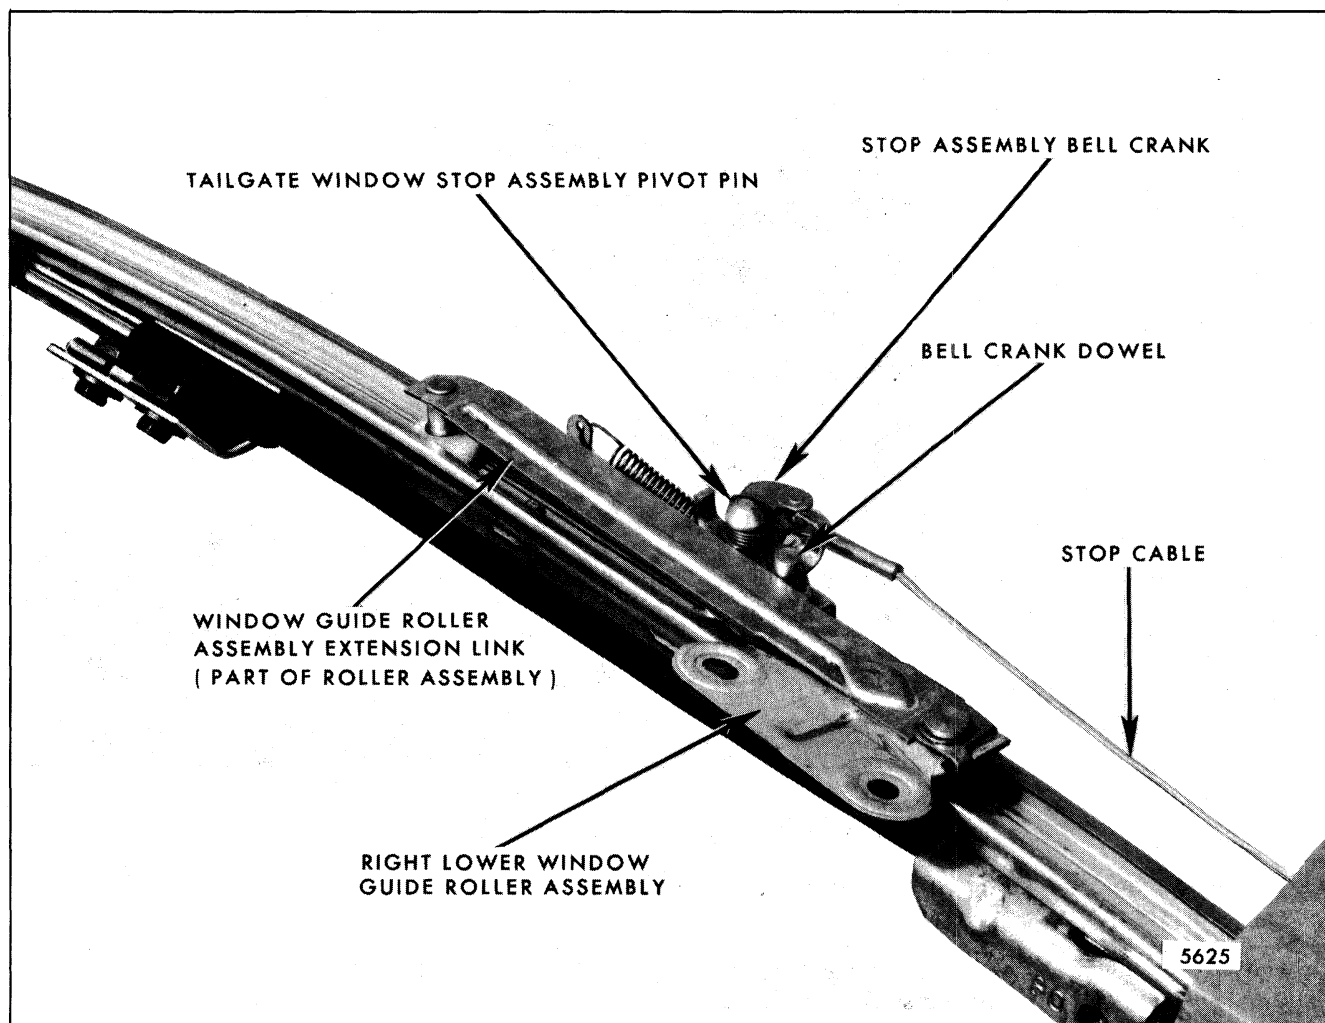

Fig. 7-134-Window Stop Cable and Clip Assembly Adjustment
2. Position tailgate window downward until the midpoint of the right lower window guide roller assembly extension aligns with the tailgate window stop assembly pivot pin (Fig. 7-134).
3. Loosen tailgate window stop assembly attaching nut and allow spring to position assembly upward so that the bell crank dowel rests against the guide roller extension as shown in Figure 7-134.